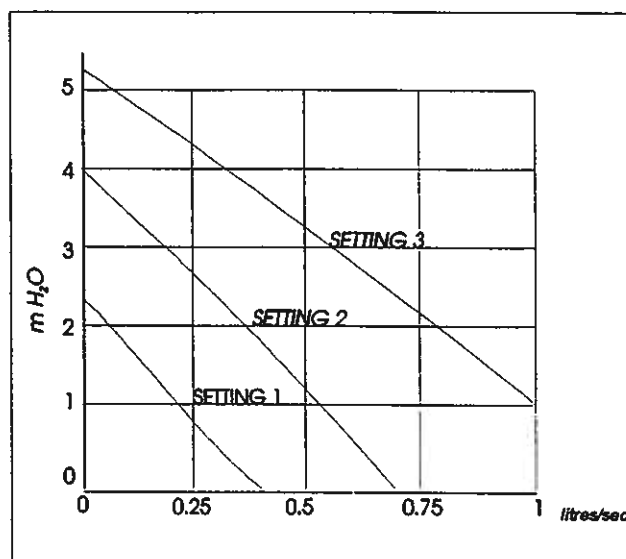

Figure 2.3 Performance Characteristics of Grundfos UPS 15-50 Pump
- a) The performance of the system pump and the pressure losses through the Systemate III primary coil circuit are shown in Figures 2.3, 2.3a and 2.4 respectively. The nett pump head available for heating circuit can be determined from these figures and this net pump head should be used for sizing the heating circuit pipework.
- a) The boiler/system pump should be set at the speed at which the temperature difference across the boiler is not greater than 11°C i.e. the nominal design parameters. The performance of the pump is shown in Figures 2.3 and 2.3a.